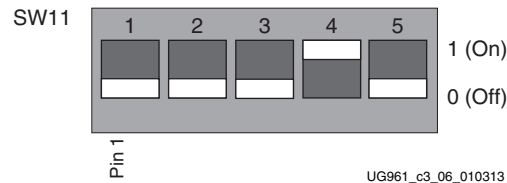

Figure 3-6: SW11 Quad SPI Flash Memory Settings
10. Set DIP switch SW11 for Quad SPI boot mode, as shown in Figure 3-6.